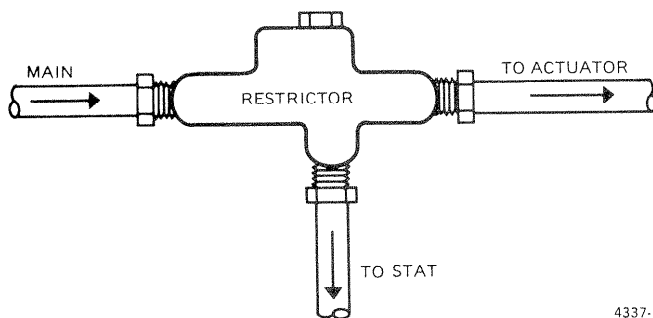

Fig. 15. Typical Adjustable Restrictor with 1/4-in. O.D. Copper Tubing.
1. Locate the existing restrictor. If it is remote, replace it with the filter/restrictor supplied in the kit. Figures 15 and 16 show typical filter/restrictor installations. Figure 17 shows a typical replacement installation. Figure 18 shows the connection to the backplate with the main port capped. Follow the instructions for a TP910 Thermostat to complete the installation.
2. If a restrictor with a shape other than that shown in Figures 15 or 16 is encountered, determine piping and pipe the replacement as shown in Figure 17.